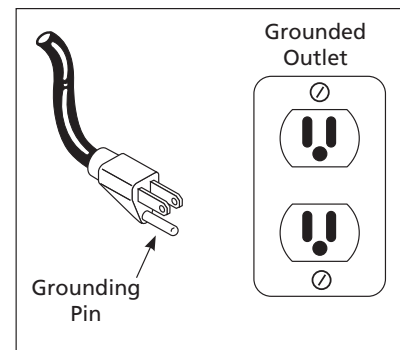

Figure 3 - Grounding Method
1. This product is for use on a nominal 120 volt circuit and has a grounding plug that looks like the plug illustrated in Figure 3. Make sure the product is connected to an outlet having the same configuration as the plug. This product must be grounded. In the event of an electrical short circuit, grounding reduces risk of electrical shock by providing an escape wire for electric current. This product is equipped with a cord having a grounding wire with an appropriate grounding plug. Plug must be plugged into an outlet that is properly installed and grounded in accordance with all local codes and ordinances.